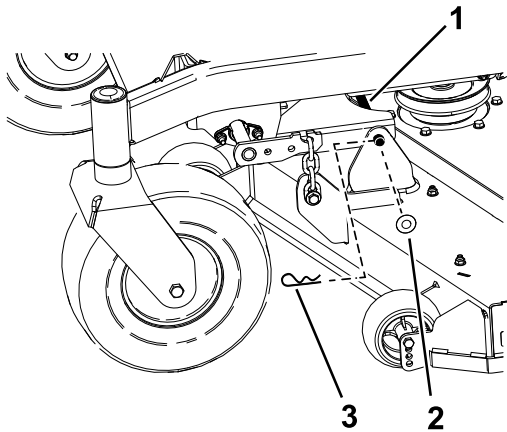

Figure 76
6. Remove the hairpin cotter and washer securing the link pin to the frame and deck, and remove the link bar (Figure 76).
9. Secure the link pin with the hairpin cotters and washers removed previously (Figure 76).